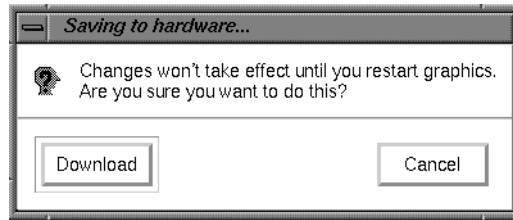

Figure D-8 Saving to Hardware Dialog Box
10. In the "Saving to hardware" dialog box that appears, click *Download* (see Figure D-8).